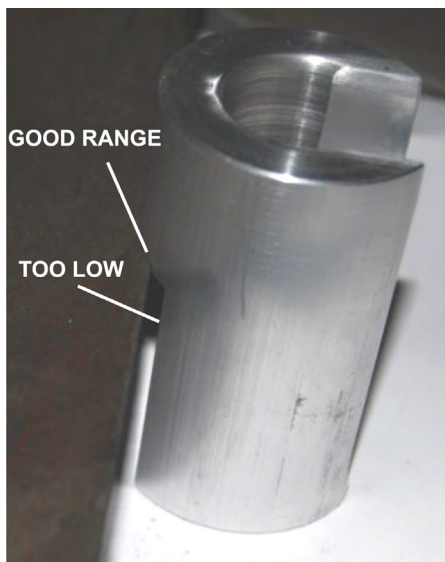

Figure 38. Measuring Leading Edge Height
2. Choose a blade on both LH and RH Rotor. Using Gauge P/N 32044, measure height of raised leading edge ensuring it is $2.00" \pm .060"$ (Figure 38). If the blade slides under the first step but not the next, it is within limits.